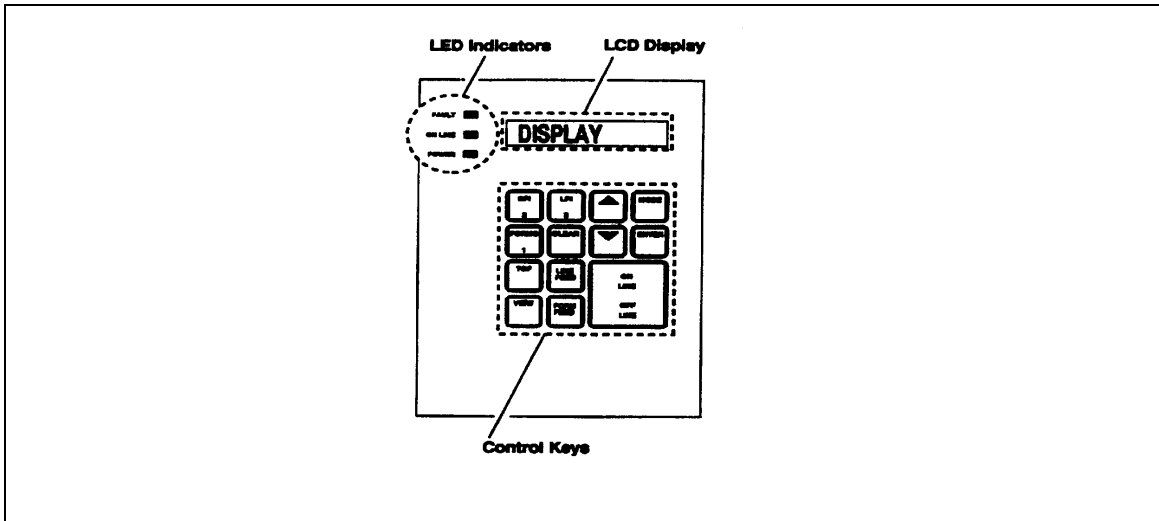

Figure 3-13. Printer Control Panel.
(2) *Control Panel.* The control panel shown in figure 3-13 is located in the lower right corner of the printer's top cover. It may be used to program and direct most printer functions. This panel contains three indicators, a 16-character display, and 11 control keys.